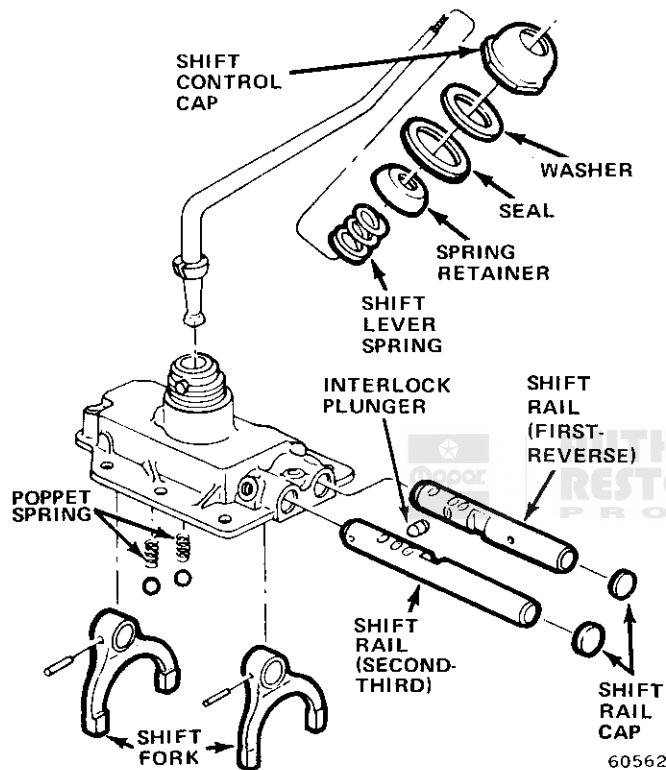

Fig. 2B-17 Shift Control Housing—Transmission Model T-150
(1) Remove backup lamp switch and TCS switch if equipped.
(2) Unthread shift lever cap and remove cap, gasket, spring seat and shift lever as assembly (fig. 2B-17).